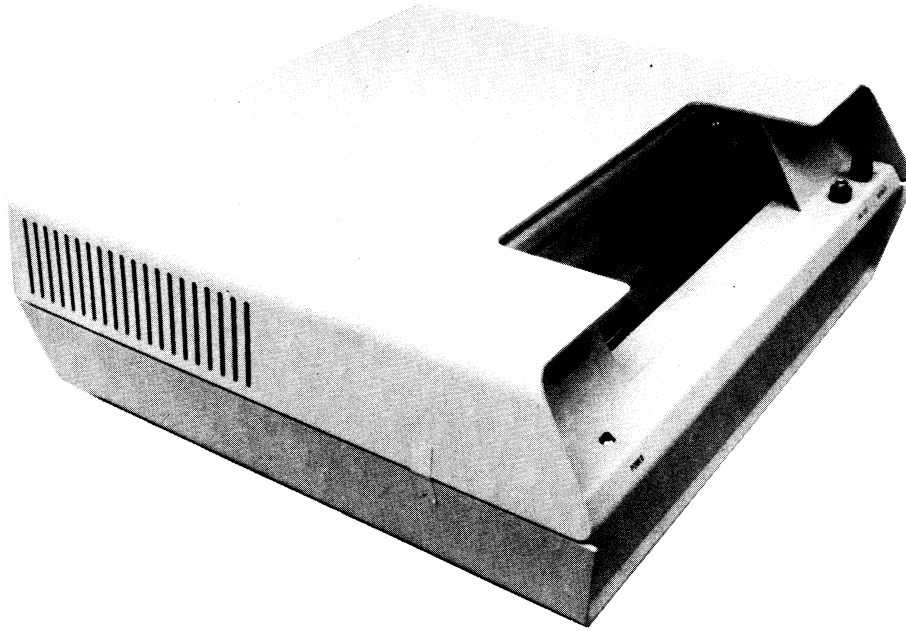

Figure 3. Packing Tape Location
1. Remove tape from side panels of Printer (see Figure 3) and lift up Printer cover.